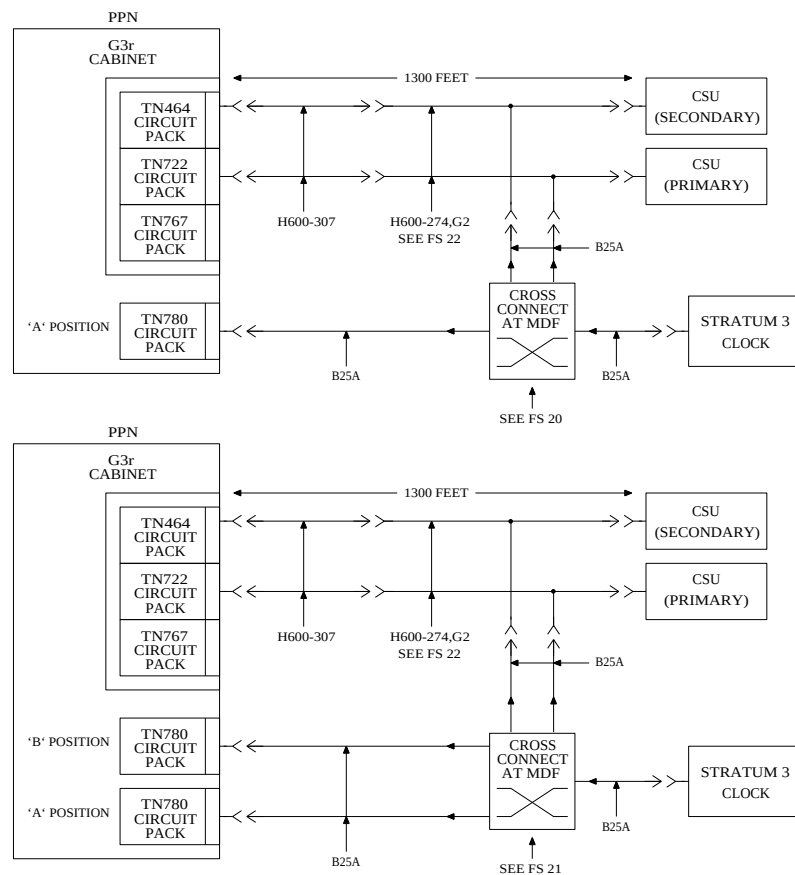

Figure 8-49. Connections for the Stratum 3 External Synchronization Clock
Figure 8-49 shows the cabling connections that need to be made for the Stratum 3 clock installation procedure. Connections to the Stratum 3 clock are made through the yellow field cross-connect. A custom "Y" cable (H600-274) connects the Channel Service Unit (CSU) to the DS1 circuit pack and taps off the input required by the Stratum 3 clock. A resistor is built into the cable to provide the required isolation between the PBX and the clock. The "Y" cable plugs directly into the CSU, and connects to standard cables for the interface to the PBX and yellow field cross-connect.
1. Connect the B25A cables from the TN780 connector panel slot on the switch cabinet and the Stratum 3 External Synchronization Clock to the factory connectorized cross-connect module in the yellow field (Figure 8-49).
2. Connect the CSU plug end of the H-600-274 (Y) cable to the primary CSU. Run and connect an H600-307 cable from the DS1 connector panel slot on the switch cabinet to the connector on the "SYSTEM" end of the "Y" cable.